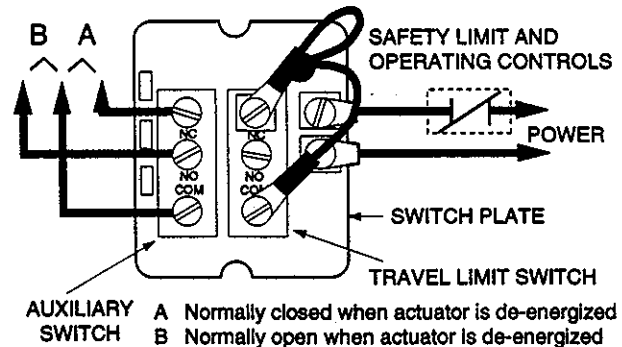

Figure 2. Two-Wire Circuit with Auxiliary Switch Wiring
1. Follow equipment manufacturer's wiring instructions. Typical wiring connections are shown in Figures 2 and 7.